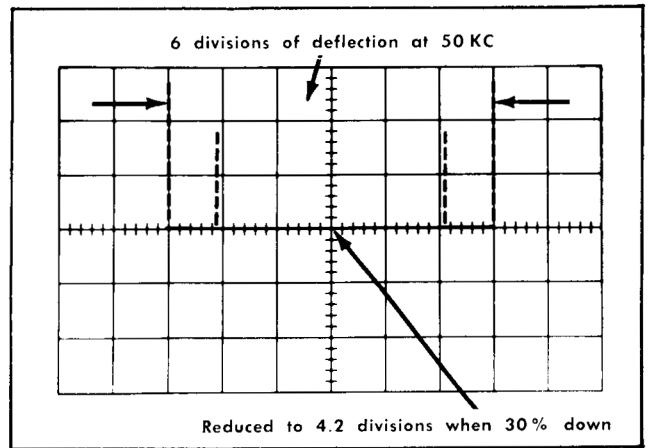

Fig. 6-30. Typical crt display when checking external horizontal bandpass.
f. Without changing the output amplitude, increase the output frequency until the horizontal deflection is reduced to 4.2 divisions (see Fig. 6-30).